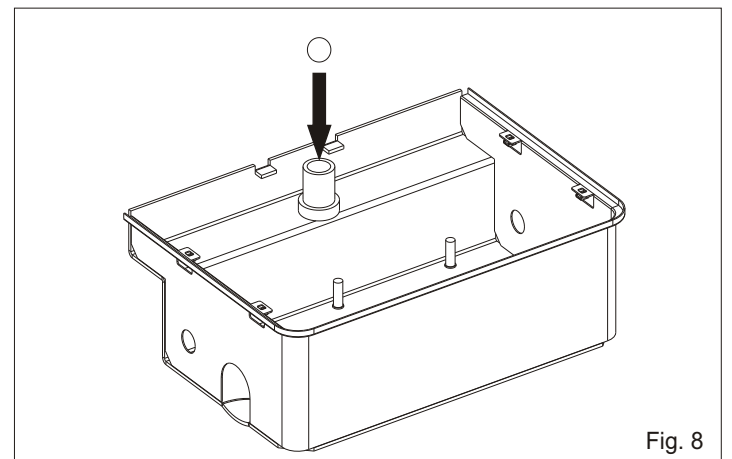
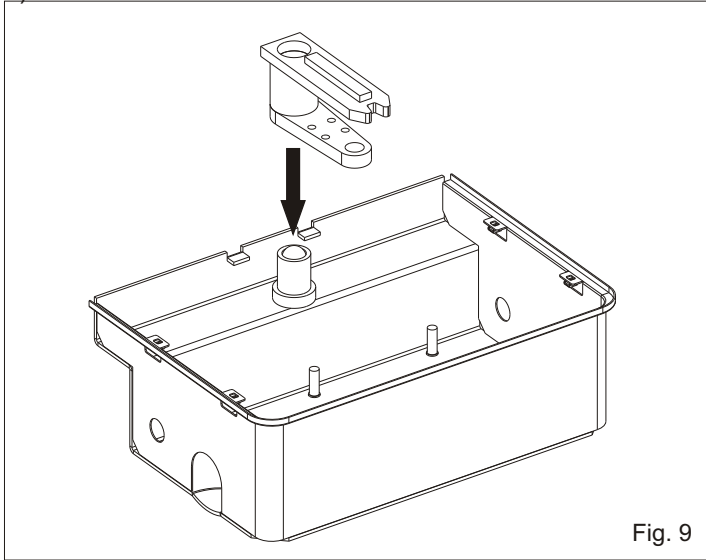
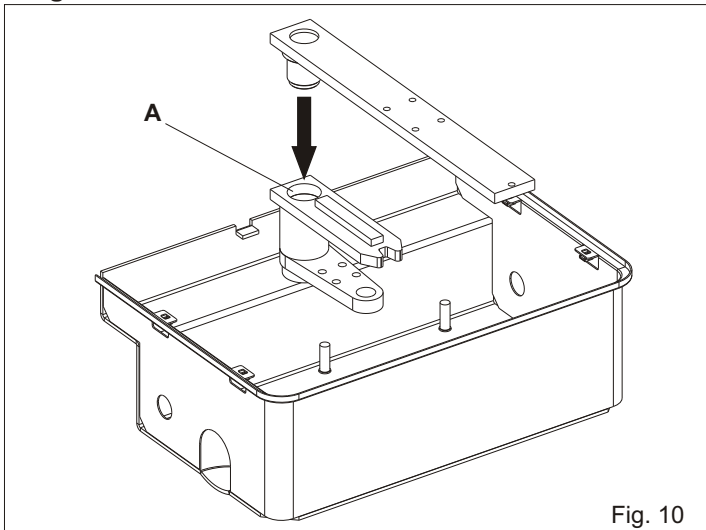

Fig. 8
Fig. 9
Fig. 10
2.4. Insert the ball into the perforated shaft (Fig. 8)
2.5. Insert the handle bar device into the perforated shaft (Fig. 9)
2.6. Grease plentifully the hole A and insert the leaf device (Fig. 10). **Grease the whole with the special greaser until the grease comes out of both sides.** ⚠
N.B.: During the insertion of the units lubricate them with the supplied grease (Fig.8, Fig.9, Fig.10).